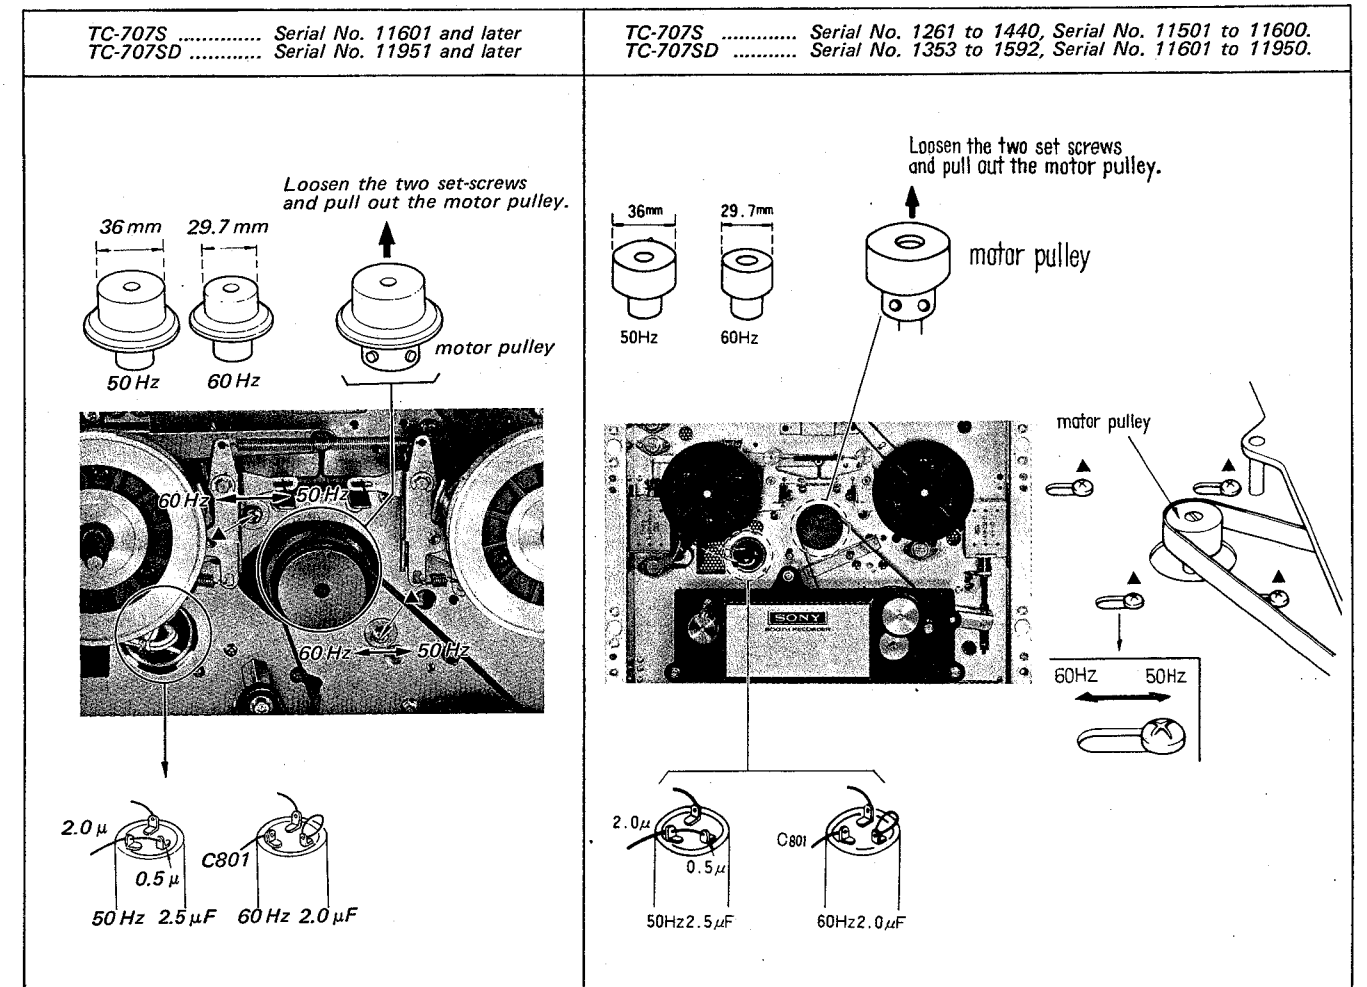

Fig. 5-1. Motor position and adjusting parts Location
- To make the tension of the capstan belt constant, adjust the position of the motor by loosening the screws marked with ▲ and by sliding the motor in the direction shown in Fig. 5-1.
For a 50 Hz line frequency, both end taps should be connected by a jumper wire, while for a 60 Hz, these should be left open as shown in Fig. 5-1.